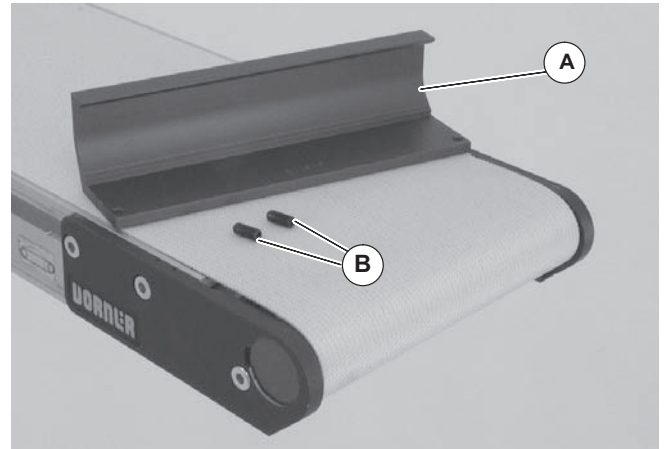

Figure 5
Periodically, remove two (2) set screws (Figure 5, item B) and remove transfer plate (A). Clean any debris from between plate and conveyor belt. Replace transfer plate (A).